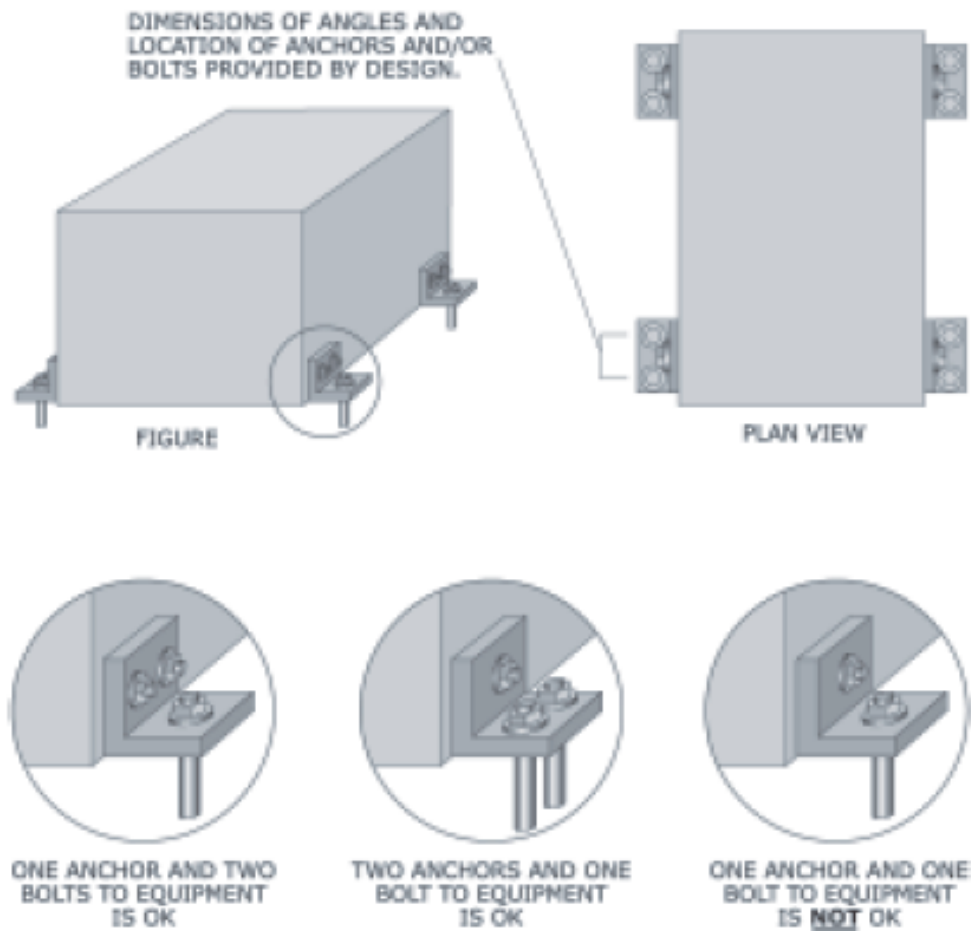

Figure 72: Four or more angles used to attach the equipment to the building.
- Four or more angles on each side of equipment bolted to the concrete floor/pad: Figure 72 (page 37).